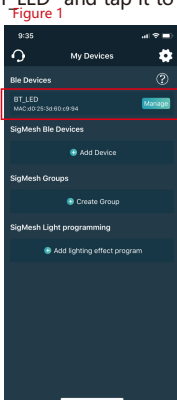

Figure 2
2. Turn on the light, switch to the APP mode, confirm that the phone Bluetooth and APP Bluetooth permission is turned on (Android devices needs to turn on GPS and APP positioning permission). Then launch the "GVM LED" App, enter the Bluetooth search interface (Figure 1), find the Bluetooth device named "BT_LED" and tap it to connect, after connected successfully, it will automatically enter the light control interface (Figure 2/3/4), at this step, you can control and change settings on the connected light or any slaved unit that are on the same channel to the connected light.